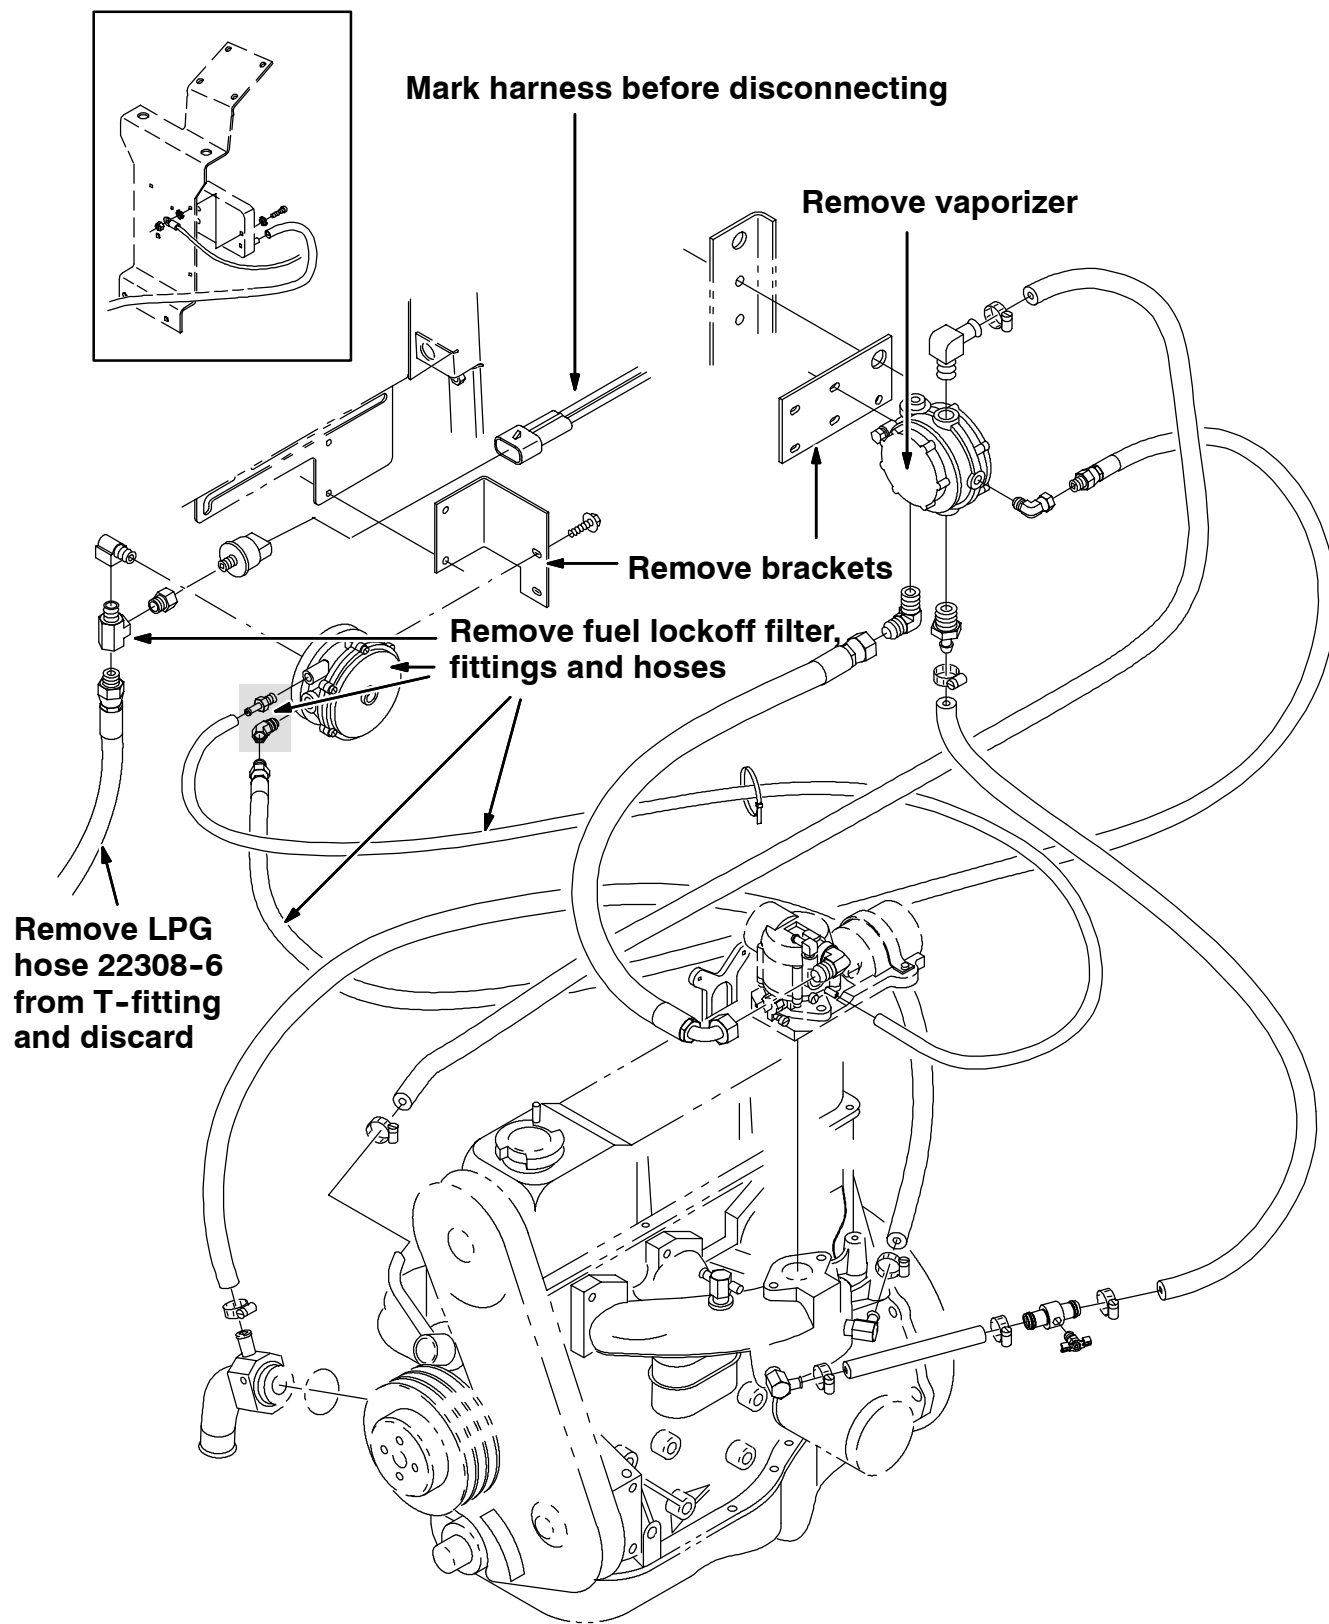

FIG. 9 - RECONFIGURATION, OLD LPG VAPORIZER
6. Disconnect the heater hoses from the engine at the thermostat housing and at the coolant air bleed tube. Discard the heater hoses. Set the hose clamps aside. (Refer to FIG. 9)